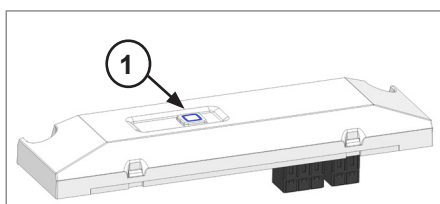

Abb. 14: System button FS-100
Calibration mode is active for 3 minutes. You can manually start calibration mode again for another 3 minutes by briefly pressing the system button (1) (s. fig. 14).